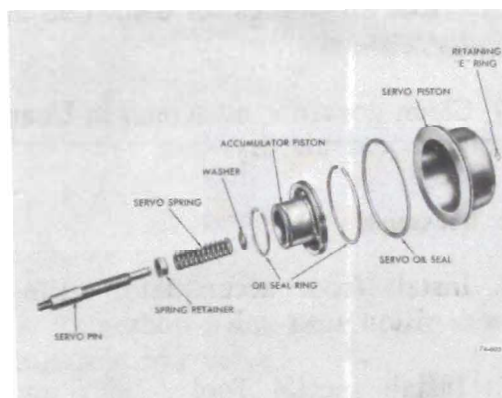

Figure 76-605
1. Install spring retainer, spring and washer on band apply pin. See Figure 76-605.